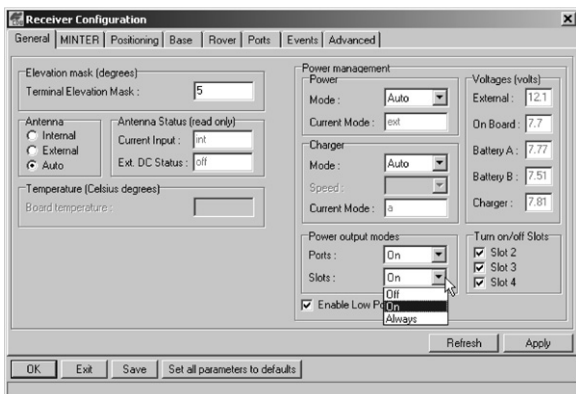

Figure 2-16. Select Power Output Modes – Slots
6. Select the Power output modes Slots drop-down list to set power output on internal slots (Figure 2-16).